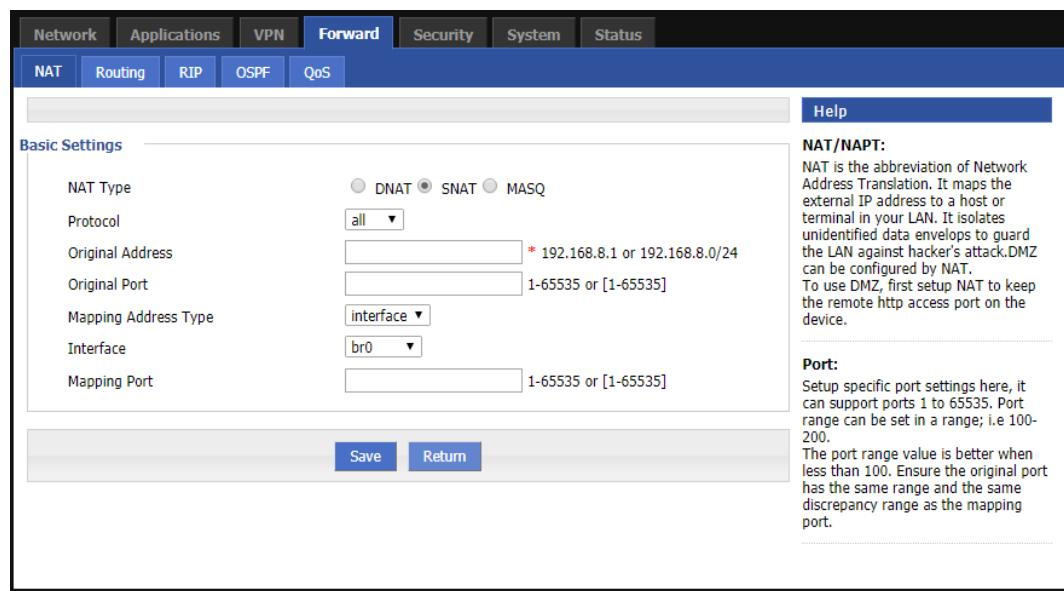

Figure 5-36 SNAT Rule Configuration Interface
- Step 3 When you select Convert Type to SNAT, the configuration interface is shown in Figure 5-36.